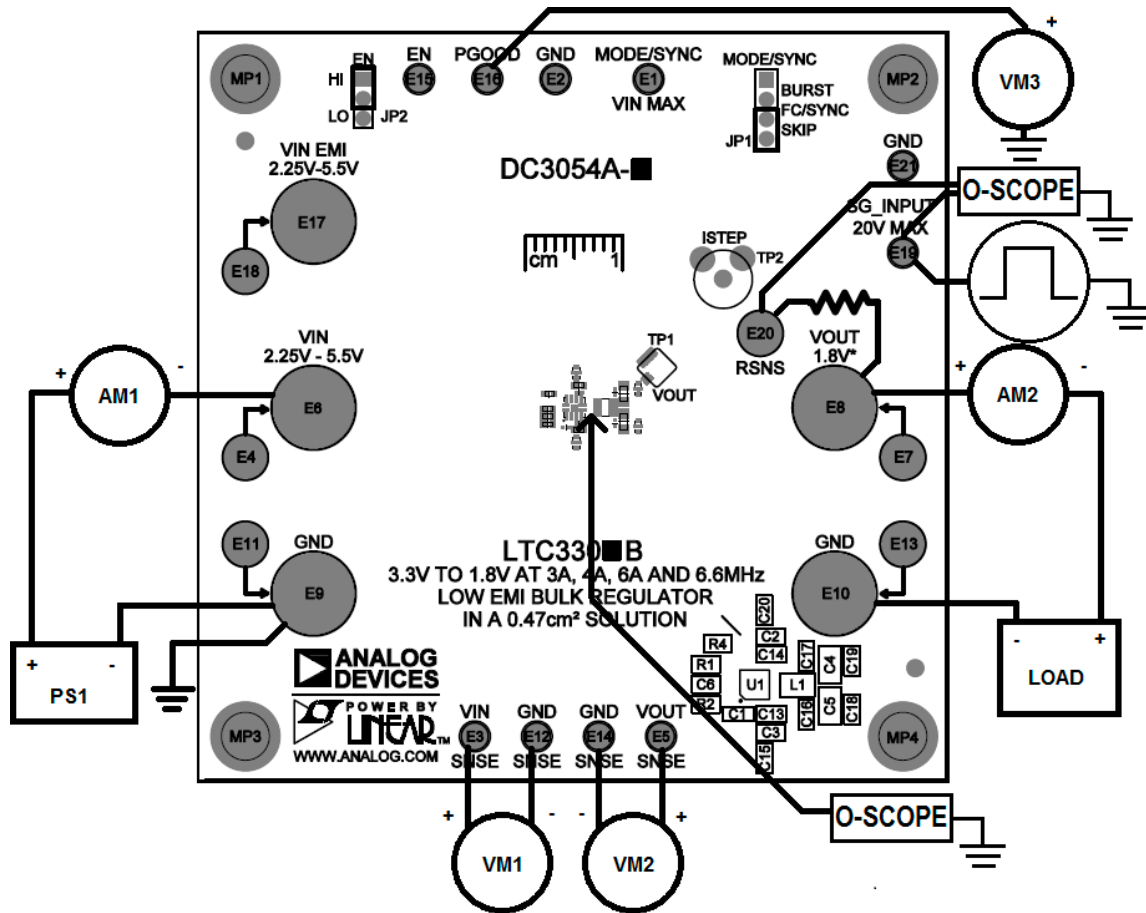

Figure 1. Test Setup for the DC3054A-C Demo Board
Demonstration circuit 3054A-C is easy to set up and use to evaluate the performance of the LTC3309B. Refer to Figure 1 for proper measurement equipment setup and follow the procedure below:
NOTE: For accurate  $V_{IN}$ ,  $V_{OUT}$  and efficiency measurements, measure  $V_{IN}$  at the  $V_{IN}$  SNSE and GND SNSE turrets and  $V_{OUT}$  at the  $V_{OUT}$  SNSE and GND SNSE turrets as illustrated as VM1 and VM2 in Figure 1. When measuring the input or output voltage ripple, care must be taken to avoid a long ground lead on the oscilloscope probe.
13. To test the transient response with a base load, add the desired resistor to produce a minimum load between  $V_{OUT}$  and RSNS turrets ( $R_L$  shown on Figure 1). Note that the total load resistance will be  $R_L$  plus R11 (100m $\Omega$ ).